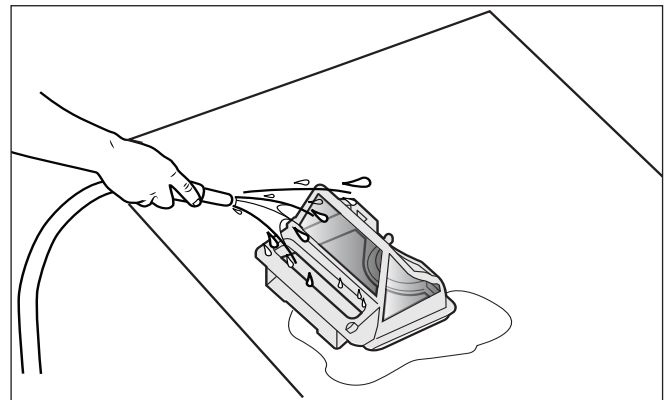

Figure 13. Wash Filter Canister
5. Empty all debris from the filter canister, then rinse the canister and the cleaner using a hose (Figure 13).